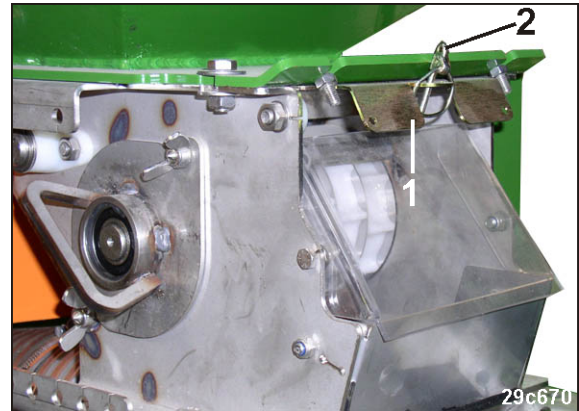

Fig. 120
1. Remove the clip pin (Fig. 120/2) (only necessary when the seed hopper is full to seal the hopper with the slider (Fig. 120/1).
Don't forget to open all sliders (Fig. 120/1).
Secure each slider with a linch pin (Fig. 120/2).